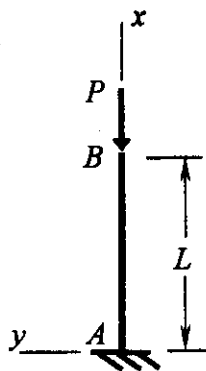

Figure 4
4. (25%) For the ideal column shown in Figure 4, determine (a) the critical load P_{cr} , (b) the equation of the buckled shape. (Hint: assume that the deflection at the free end of the column is δ .)